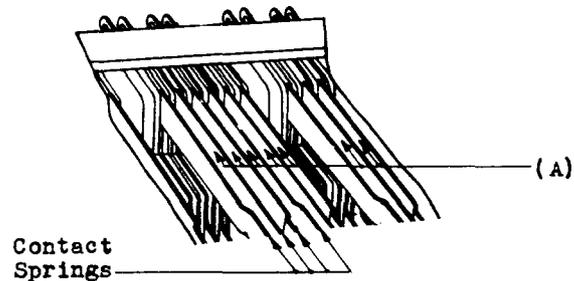

Fig. 4
(a) Fig. 4 (A) - The clearance between all contact springs for all positions of the lever shall be